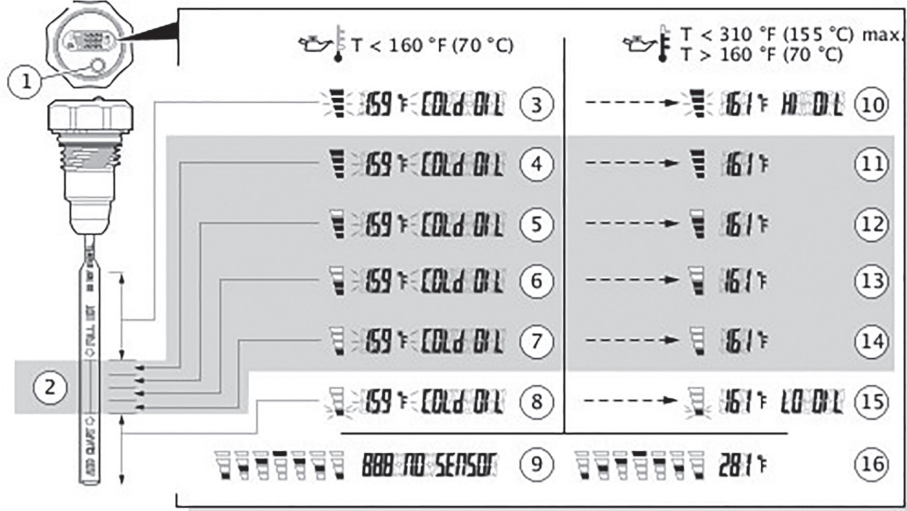

Figure 1. LCD Oil Temperature/Level Dipstick
See Figure 1. Press and release the rubber button on the front face to display:
- Proper oil level would be as indicated in Figure 1, display 4-8 (bars showing oil level and flashing oil temperature, followed by “COLD OIL” message when engine is cold). **DO NOT ADD OIL** to bring level to the FULL mark on the dipstick of a COLD engine.
- Press and release the rubber button on the front face of the LCD oil temperature/level dipstick to display temperature and oil level in the oil tank. Proper oil level would be as indicated in Figure 1, display 11-14.
An “888 NO SENSOR” error code and animated level bars (Figure 1, display 9) indicates a disconnected or damaged wire.
To help prevent failure of the electronics inside, the dipstick does not measure oil level when the oil temperature exceeds 138 °C (280 °F). Animated level bars display, along with the temperature (Figure 1, display 16), up to a maximum reading of 155 °C (310 °F).